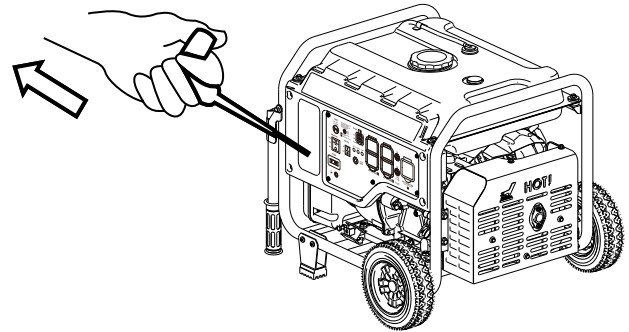

Figure 6: Pull the Recoil Handle out from Generator
5. Pull the starter grip until compression is felt, then pull briskly (see Figure 6).